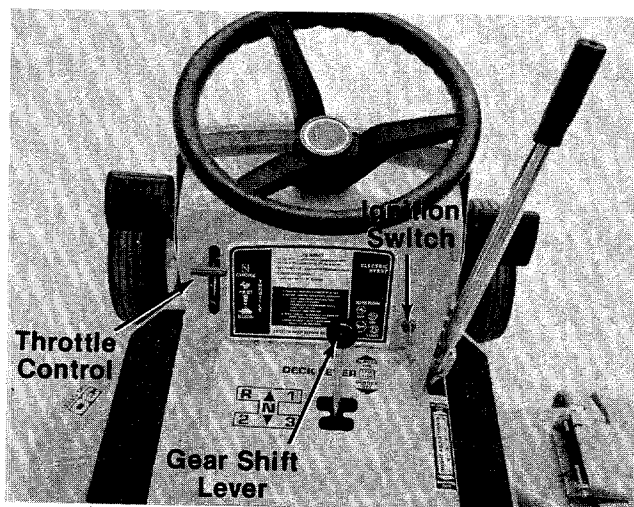

FIGURE 17.
# CONTROLS (See Figure 17)
The throttle control is used to regulate the engine speed and to activate the choke on the engine. To get maximum efficiency from cutting, the throttle should be in the FAST position when operating the mower. Pushing the throttle all the way forward past FAST, will choke the engine. See figure 17.
**Electric Start Model.** The key must be turned to the "START" position to start the engine. After the engine is running, let the key return to the "ON" position. Turn the key to the "OFF" position to stop the engine. Remove the key when the mower is not in use. See figure 17.
See figures 17 and 21.
6. Set the throttle control lever in the "CHOKE" position. See figure 17.
b. **Electric Start Model.** Turn the ignition key to the "START" position. As soon as the engine starts, let the key return to the "ON" position. See figure 17.